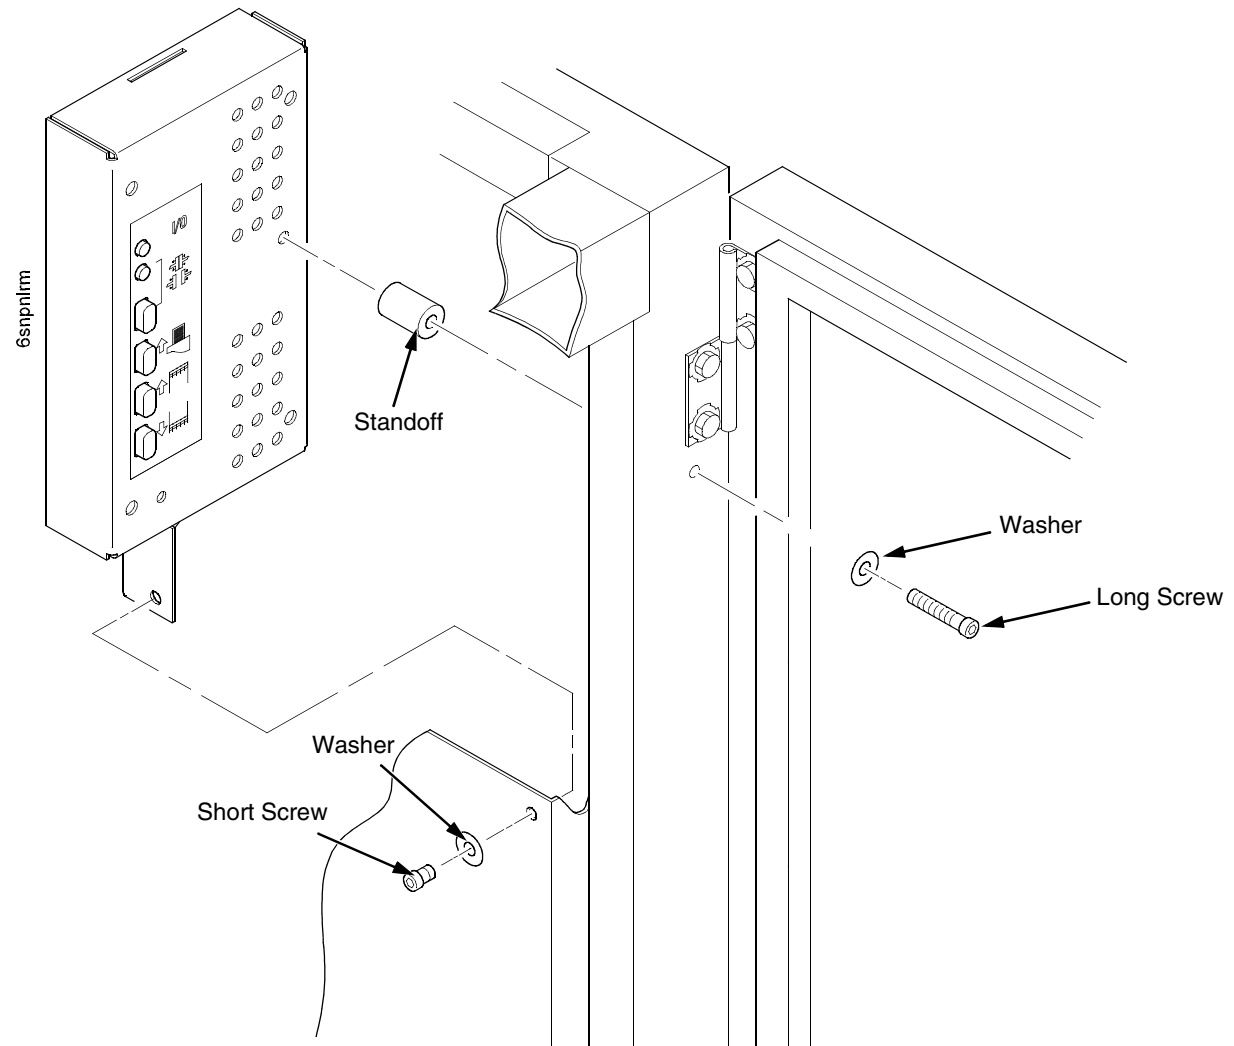

Figure 64. This figure shows how to remove an early stacker operator panel from the cabinet frame.
6. Remove the screws, washers, and standoff from the stacker operator panel. (Figure 64.)